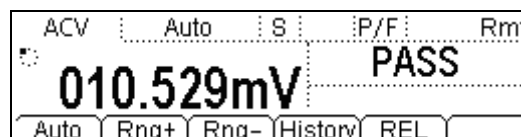

Figure 3-11 P/F Test result
- (3) Press **ON** to start P/F testing. As shown in Figure 3-11, The test result is "PASS" as the measured value is between 0V and 1V.